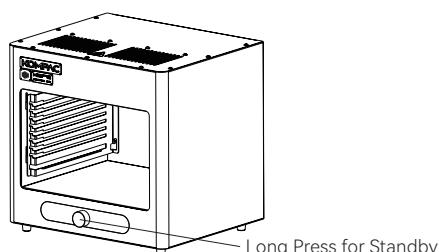

Figure 2
- ② Press and hold the control knob (see Figure 2). A short beep will sound, the fan will start, and both displays will show the last set temperature and time.
- ③ If no further action is taken, the device will heat until reaching the displayed temperature. The timer function will not activate.